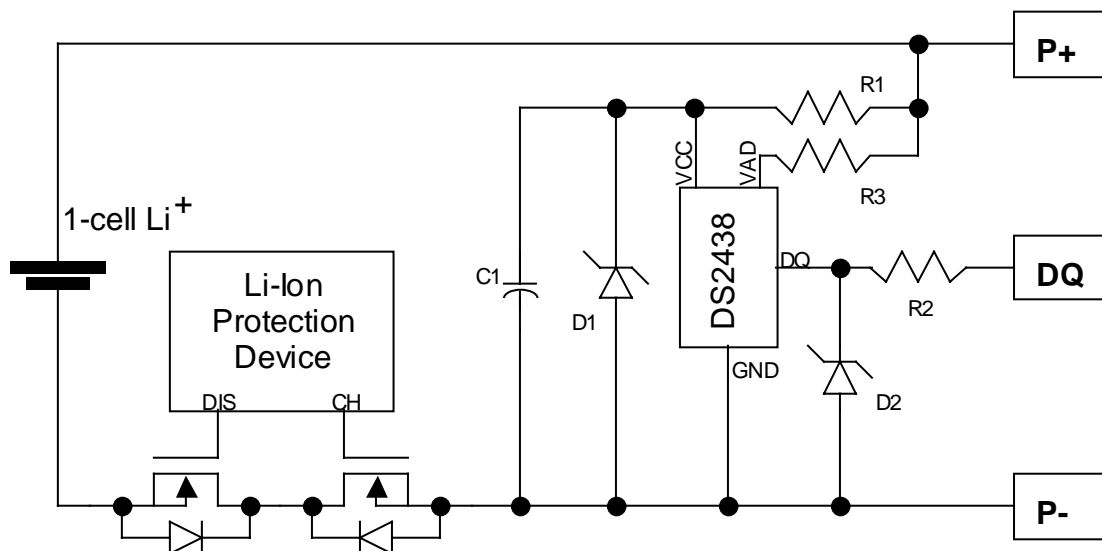

Figure 2. Recommended schematic for single-cell Li⁺ pack with low-side n-channel protection FETs.
Figure 2 below illustrates the recommended implementation of the DS2438 with respect to the low-side n-channel safety FETs. Additionally, Dallas recommends passive devices that primarily serve to protect the DS2438 from ESD damage. The protection offered by each device is described below:
2. The Zener diode D1 on V_{CC} serves two purposes. It clamps at the Zener voltage so that ESD and switching transients cannot damage the Dallas chip through V_{CC}. In the forward bias region, it clamps around 0.7 volts, thereby disallowing V_{CC} from falling more than 0.7 volts below GND, which is possible when both the CHarge and DIScharge FETs are high impedance. Choose a Zener voltage that is larger than the maximum cell(s) voltage for the application, but lower than the 10.0 volts rating of the DS2438. A Zener value between 5.1 volts and 10.0 volts would be ideal for the circuit in Figure 2.